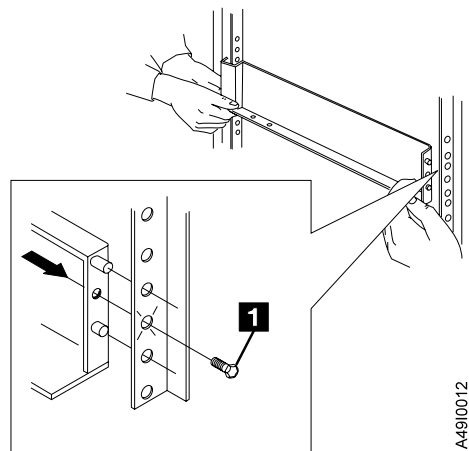

Figure 6. Rail Alignment and Installation
- ___ Step 3. Position right rail alignment pin on the front of the rail in the 4th hole from the bottom in right front rack upright. Position also, the U-shaped channel on back of rail around nut clip in the rear upright. See Figure 6.
- ___ Step 4. At the front of the rack, install a screw 1 through rack upright and into the threaded hole in the rail and tighten screw. See Figure 6.